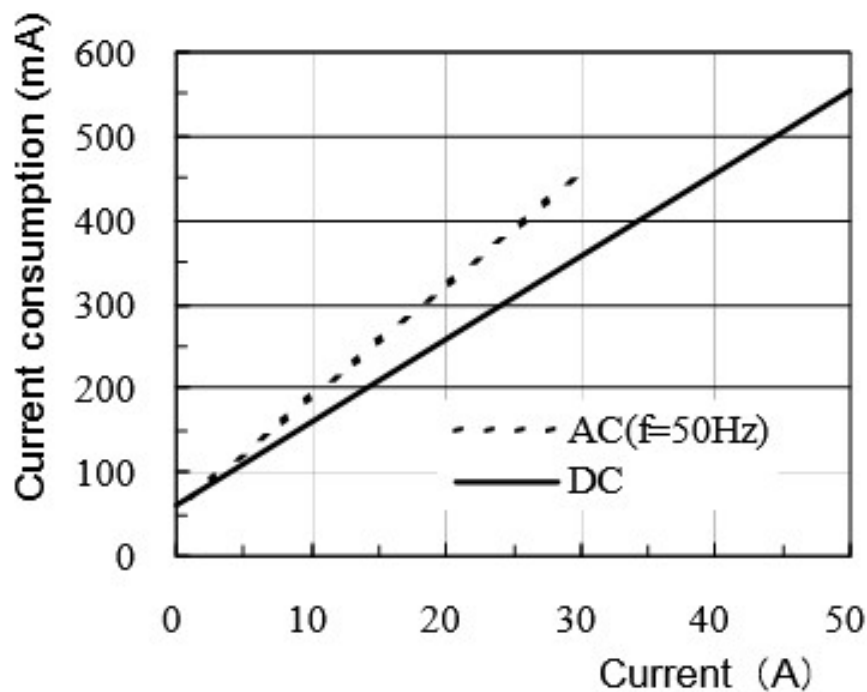

Fig.7 Current consumption* vs. current to be measured
- The current consumption of clamp-on probes depends on the current to be measured. Confirm that the total current consumption of the clamp-on probes does not exceed the rated output current of the 3269 or 3272. See Fig. 7,8.